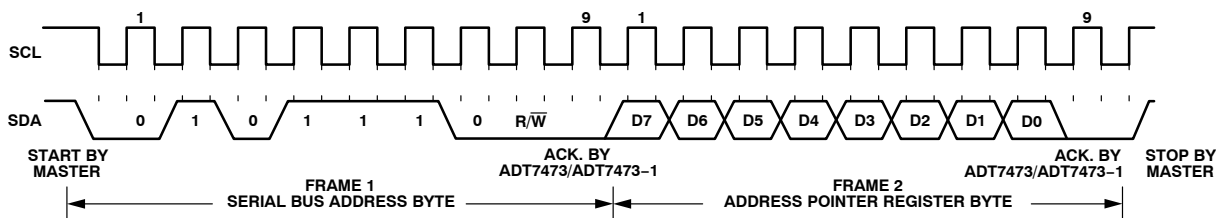

Figure 18. Writing to the Address Pointer Register Only
- If the ADT7473/ADT7473-1's address pointer register value is unknown or not the desired value, it must first be set to the correct value before data can be read from the desired data register. This is done by performing a write to the ADT7473/ADT7473-1, but only the data byte containing the register address is sent, because no data is written to the register. This is shown in Figure 18.